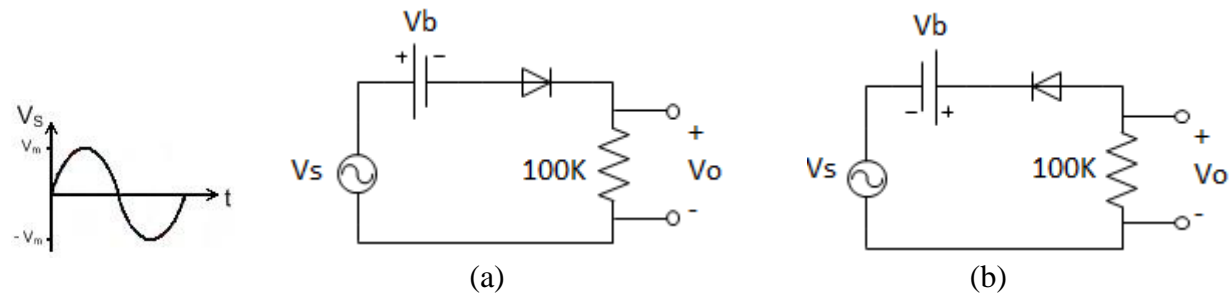
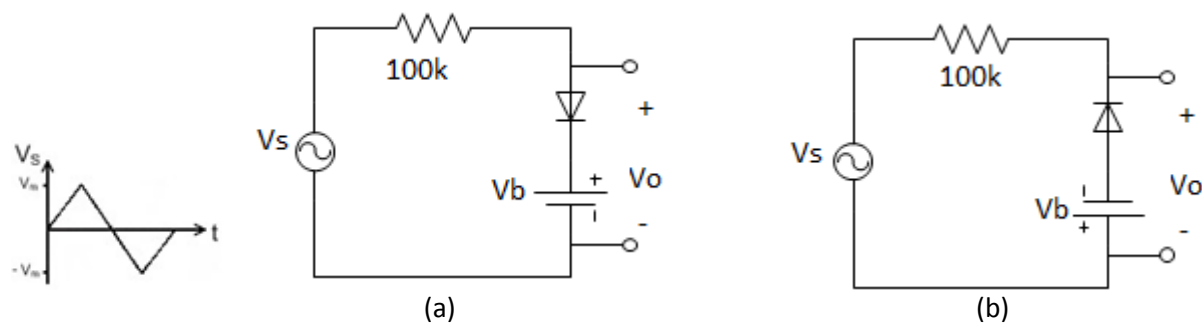
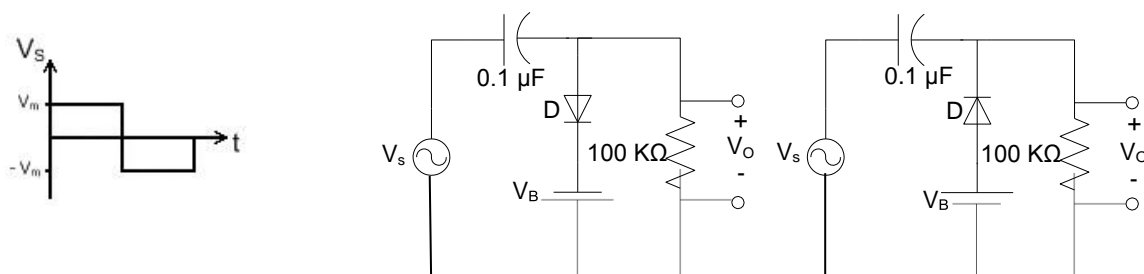

Figure 4.6: Series Clipper Circuit
Figure 4.7: Parallel Clipper Circuits
Figure 4.8: Clamper circuit
1. Connect the circuit as shown in the figure 4.6.
Input-output Fig 4.6 (a)
Input-output Fig 4.6 (b)
Input-output Fig 4.7 (a)
Input-output Fig 4.7 (b)
Input-output Fig 4.8 (a)
Input-output Fig 4.8 (b)
2. For Fig 4.6(a &b), Fig4.7 (a & b) and Fig 4.8 (a & b) what change did you observe in the output voltage, In procedure-4? Explain the reason behind such a change.
3. For Fig 4.6(a &b), Fig4.7 (a & b) and Fig 4.8 (a & b) what change did you observe in the output voltage, In procedure-5? Explain the reason behind such a change.